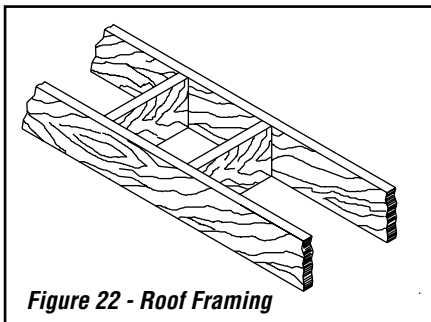

Figure 22 - Roof Framing
1. Cut and frame the holes in the ceiling, floor and roof where the chimney will pass (see **Figure 22**). Use a plumb bob to line up the center of the holes. The sizes are indicated in **Table 2** for the floor and ceiling holes and **Table 3 (Page 15)** for the roof holes.